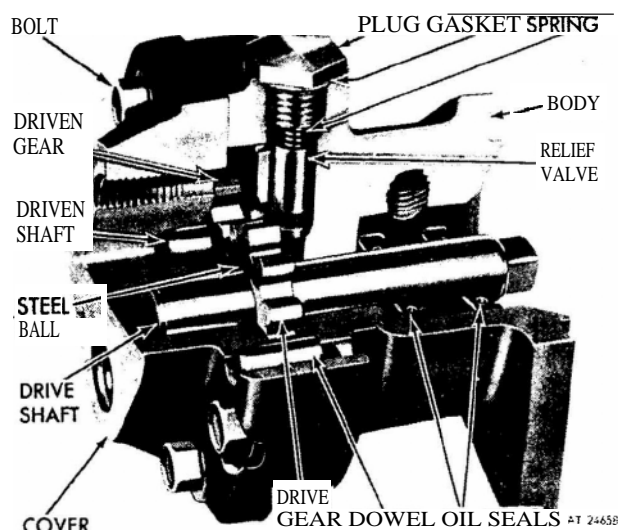
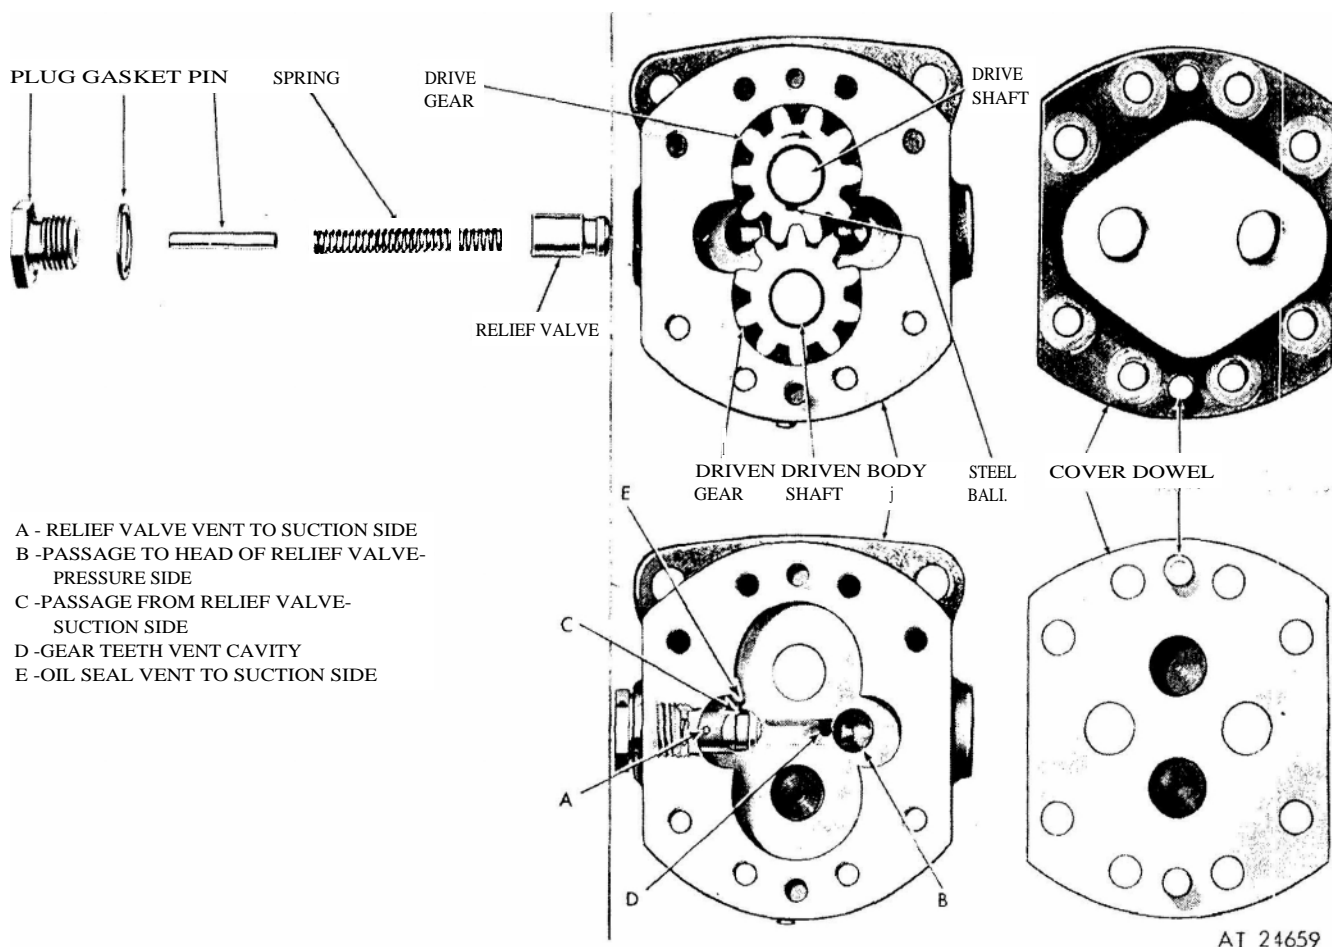

Figure 1. Typical fuel pump assembly.
Figure 2- Fuel pump valving and rotation (right hand pump shown).
The fuel pump, illustrated in figure 1, is the positive displacement gear-type. The pump circulates, or transfers, fuel from the fuel tank to the fuel injectors. The pump circulates the excess supply of fuel through the injectors and the unused portion returns to the fuel tank by means of a fuel return manifold and fuel return line. The **fuel pump cover** and body are positioned by means of two dowels. The dowels aid in maintaining gear shaft alignment. The mating surfaces of the pump body and cover are ground perfectly flat. No gasket is used between the cover body since the pump clearances are set up on a metal-to-metal contact basis. A very thin coating of sealant provides a seal against any minute irregularities in the mating surfaces. Cavities in the pump cover accommodate the ends of the drive and driven shafts. The fuel pump body is recessed to provide space for the pump gears (fig. 2). Recesses are also provided at the inlet and outlet positions of the gears. The small hole "A" permits the fuel oil in the inlet side of the pump to lubricate the relief valve at its outer end and to eliminate the possibility of a hydrostatic lock which would render the relief valve inoperative. Pressurized fuel contacts the relief valve through hole "B" and provides for relief of excess discharge pressures. Fuel re-enters the inlet side of the pump through hole "C" when the discharge pressure is great enough to move the relief valve back from its seat. Part of the relief valve may be seen through hole "C". The cavity "D" provides escape for the fuel oil which is squeezed out of the gear teeth as they mesh together on the discharge side of the pump. Otherwise, fuel trapped at the root of the teeth would tend to force the gears apart, resulting in undue wear on the gears, shafts, body and cover. Two oil seals are pressed into the bore in the flanged side of the pump body with the sealing lips of the seals facing away from the fuel pump gears, as shown in figure 1. Two tapped holes in the underside of the pump body, between the seals, furnish a means of attaching piping for draining off any leakage. *If leakage exceeds one drop per minute, the seals must be replaced.* The fuel pump should maintain a fuel pressure at the fuel inlet passage of 45 to 70 psi at 1800 rpm engine speed in the cylinder head. The drive and driven gears are a line-to-line to .001" press fit on their shafts. However, only the drive gear is provided with a gear retaining ball to locate the gear on the shaft. See figure 2. A spring-loaded relief valve incorporated in the pump body normally remains in
2. Without removing the pump from the engine, unscrew the valve plug, figure 2, then remove the spring, pin and valve. Wash the parts and blow out the valve cavity with compressed air. Reinstall the valve parts.